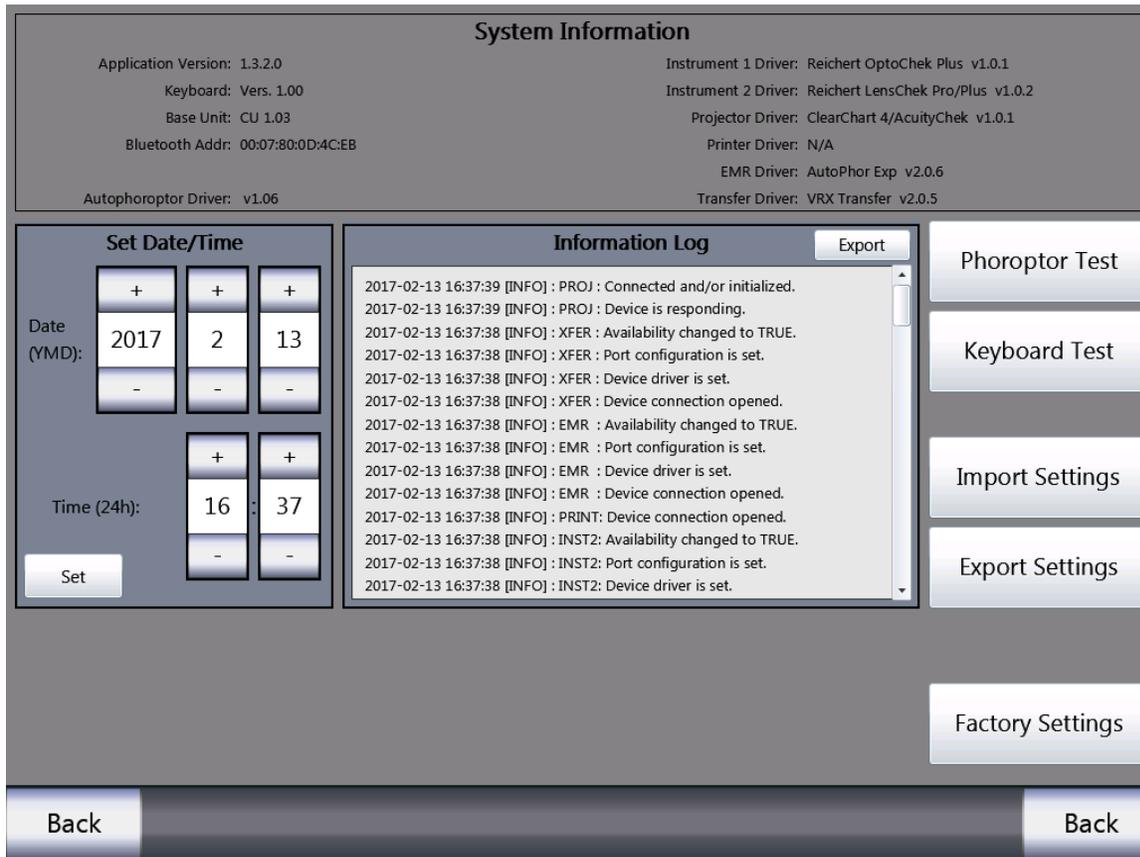

Figure IS-33, Service Menu
The Service Information section lists the following information: (Please refer to Figure IS-33.)
1. Touch **+** or **-** in the Set Date/Time box to change the date and time. (Please refer to Figure IS-33.)